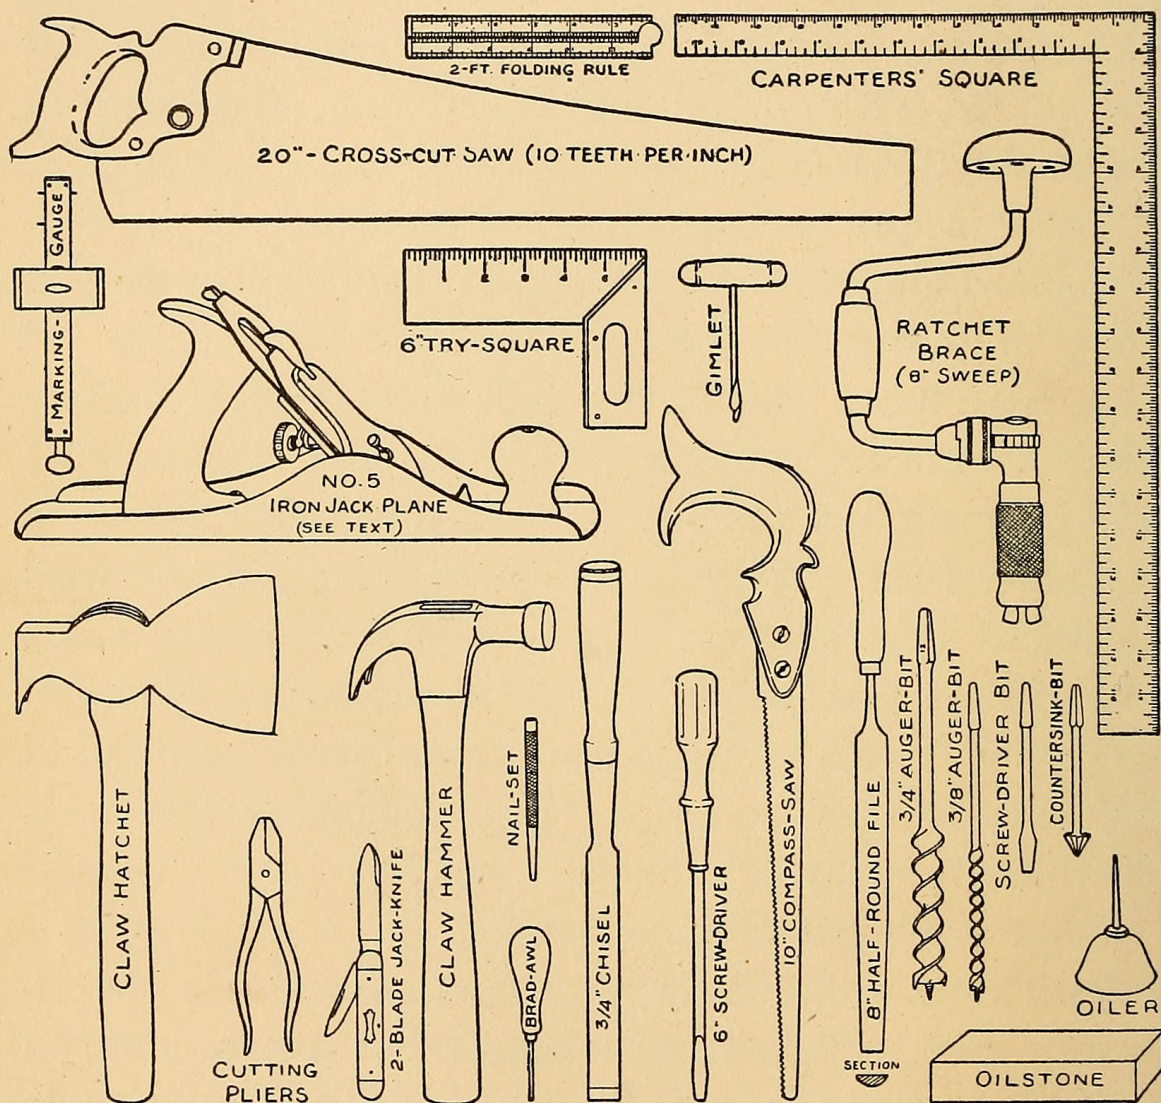
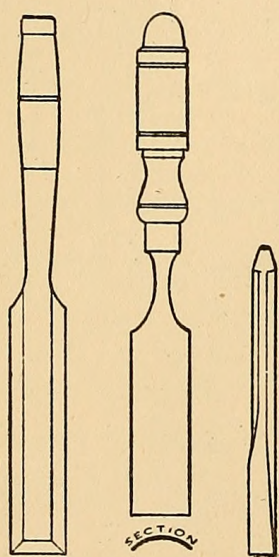

FIG. 16. — A Small Tool Outfit.
FIG. 28. Beveled Chisel. FIG. 29. Gouge. FIG. 30. Cold-chisel.
**The Principal Tools** which a boy requires. If you cannot afford more at the start, add to them as soon as you can. Figure 16 shows illustrations of
**Jack-knife.** By this is not meant a four-blade pocket-knife with a polished pearl handle, but just a common knife, strongly made, and having blades of steel properly tempered so they will hold an edge. A two-blade knife with wooden handle similar to that shown in Fig. 16 is a desirable form for all-round work, and is made in a medium-priced knife with blades of a good quality of steel.
A Hatchet with a claw (Fig. 16) is to be preferred to one without, as it may be used for withdrawing nails as
**A Hammer.** Get a medium-sized claw hammer, either with a *bell* face (Fig. 16) or a *plain* face,—it does not matter which,—and if possible get one with the head fastened on with *patent-lock* wedges which make it impossible for it to loosen and fly off.
**A Nail-set** is required for driving nail-heads below the surface of work before finishing it. A *cut* iron nail may be used, but it is not as satisfactory as the regular nail-set shown in Fig. 16. You will find it handy to have two sizes, one for *finishing-nails*, the other for *common nails*.
**The Cross-cut Saw** (Fig. 16) is made to cut across the grain of wood. It will also cut with the grain, but as the teeth1 are not properly prepared for *ripping*, the work is slower to do. When money permits, you should add a 22-inch
**Compass-saw** (Fig. 16) is made especially for cutting curves, the teeth being filed to cut with as well as across the grain, and it is handy for sawing thin wood. A finer saw which you may prefer to the compass-saw is the
**A Jack-plane** (Fig. 16) fitted with a *smoothing-plane iron* is to be preferred to a smoothing-plane, if one plane must be chosen, for its long *sole* (bottom face) makes it easier to plane up a surface without hollowing it. This plane, thus equipped, may be used for both reducing thicknesses of material and removing *undressed* surfaces (the purpose of the jack-plane), as well as planing up surfaces true and smooth (the purpose of the smoothing-plane). The jack-plane iron has its cutting edge slightly rounded, instead of being ground straight across like the smoothing-plane iron, in order to make it gouge out the wood and thus reduce thicknesses quickly, so you will readily see that it cannot be expected to straighten up a surface. Of course you can buy the two irons and make the plane the equivalent of a jack- and a smoothing-plane. The Stanley "Bailey" adjustable iron plane shown in the illustration is a better form to purchase than the old-fashioned plane with a wooden stock, as it is so easily adjusted. The No. 5 size (Fig. 16) is 14 inches long
A  $\frac{3}{8}$ -inch and a  $\frac{3}{4}$ -inch auger-bit are included among the tools shown in Fig. 16. Of course, it is often necessary to bore holes of other sizes, and
**Brad-awls** are the simplest and cheapest tools manufactured for making very small holes for nails and screws (Fig. 16). They are sold in various sizes, one or two of which will be useful. A
**Hand Gimlet** (Fig. 16) is also handy for boring small holes.
**Rose Countersink Bit** to fit in your brace (Fig. 16). This is used after a screw hole has been bored, and bevels off the edge of the hole enough to let the screw-head drop below the surface.
**Hand Screw-driver** and a medium-sized **Screw-driver Bit** (Fig. 16).
A  $\frac{3}{4}$ -inch chisel is included in the outfit shown in Fig. 16. This size will be found best for a starter. You will soon require a smaller chisel — one about  $\frac{1}{4}$  inch wide,
blade to make them handy for getting into corners (Fig. 28). For cutting curved grooves and curved surfaces a
necessary, they should be protected by a leather cap (Fig. 16) or a metal *ferrule* (Fig. 28), to keep the wood from splitting. The chisel or gouge which fits into the handle (Fig. 29) is strong enough for hand use (*paring*), but those made with sockets for the handles to fit into (Fig. 28) are better for mortising and other work where driving is necessary. A
A **Half-round Wood-file** (Fig. 16) may be used for smoothing up all sorts of irregular surfaces and is the best kind to purchase for a small outfit of tools. The
**Two-foot Folding Rule** (Fig. 16) is required, and either a *try-square* or a *carpenter's square* is necessary for laying out lines at right angles to another line or to the edge of a piece of work, for testing corners to see whether or not they are square, and for testing surfaces for irregularities. The writer prefers a
**Try-square** with a *mitered* handle (Fig. 16), as lines at 45 degrees may be laid out with it. The large size of
**Carpenter's Steel Square** has a *body* (the long end) 24 inches long and a *tongue* (the short end) 18 inches long; but a smaller size with a body 18 inches long and tongue 12 inches long (Fig. 16) will serve your purpose just as well and will be cheaper to buy and lighter to handle.
**A Marking-gauge** (Fig. 16) consists of a block of wood (the *head*) through which slides a graduated stick (the